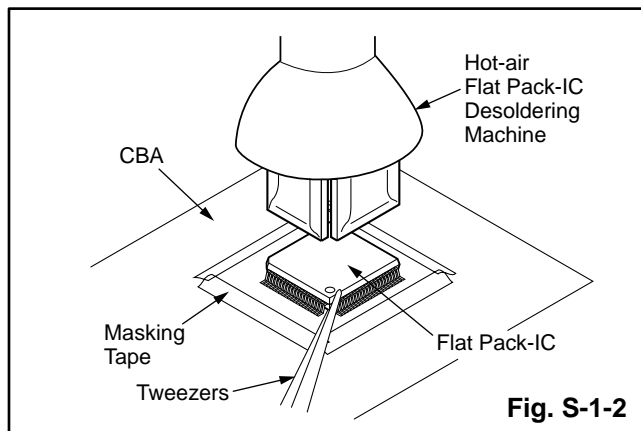

Fig. S-1-2
1. Do not supply hot air to the chip parts around the flat pack-IC for over 6 seconds because damage to the chip parts may occur. Put masking tape around the flat pack-IC to protect other parts from damage. (Fig. S-1-2)